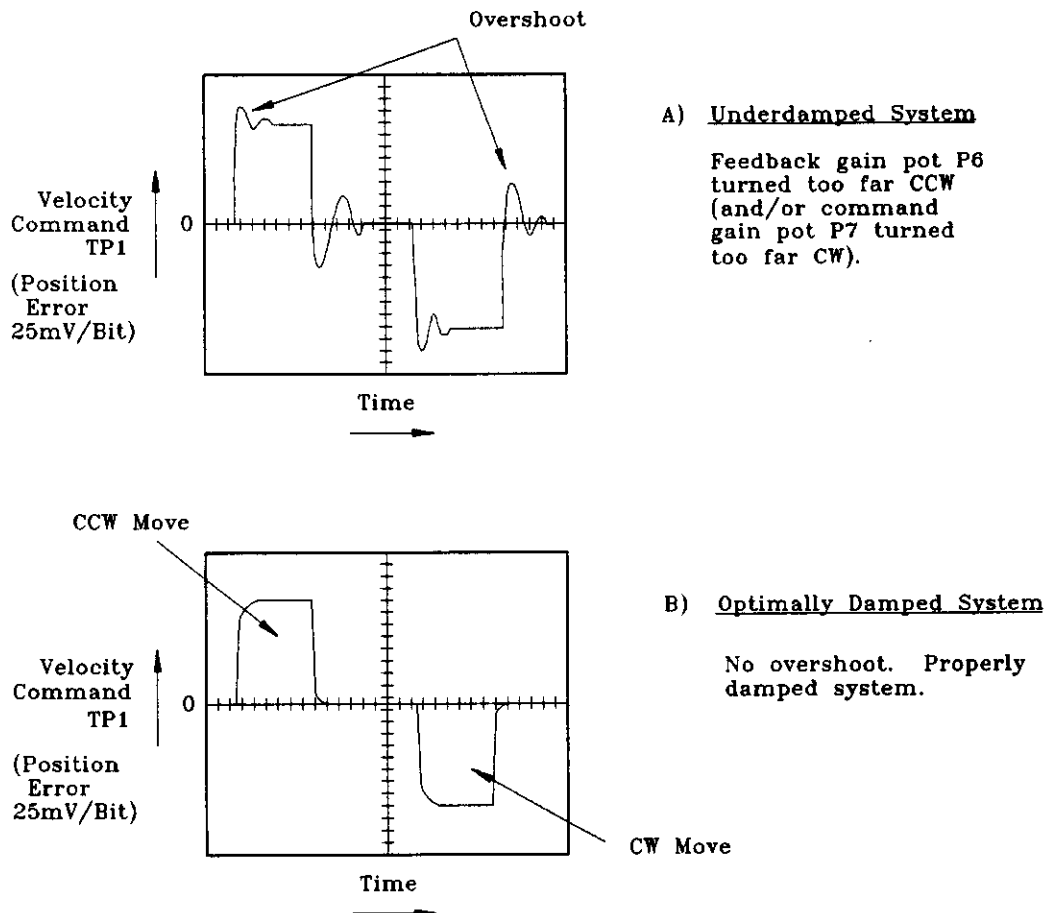

Figure 6-12: Velocity Command refers to TP1 for Underdamped (A), and Optimally Damped (B), Position Loop Response
7. The system should now be stable and the gain adjustments very conservatively set (OVER DAMPED). At this point the system should be running the program of Step 5 very smoothly. To optimize positioning time, run the program of Step 5 at maximum system speed (typically 90,000 steps/second) and turn P7 (COMMAND GAIN) further CW, to achieve the results at testpoint TP1 (VELOCITY COMMAND) as shown in Figure 6-12. If the range of P7 is not sufficient, it may be necessary to turn P6 (DAMPING) further CCW. If adjustment is made to P6 you must also readjust P3 (AC GAIN). (Follow the procedure outlined in Step 6.)
NOTE: The velocity command shown in Figure 6-12 also represents the position error which is scaled to a 25mV/machine step.